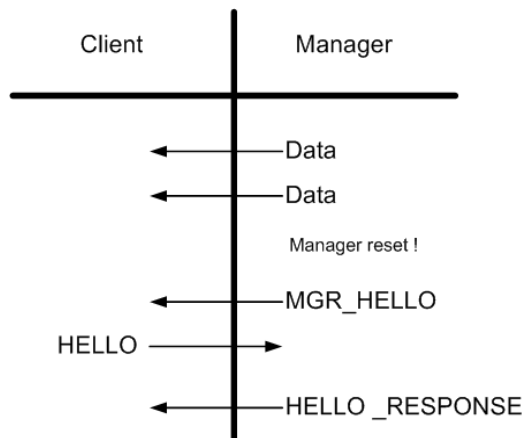

Figure 6 Hello Handshake Following a Manager Reset
- Upon receiving *MGR_HELLO* packet (see Figure 6).